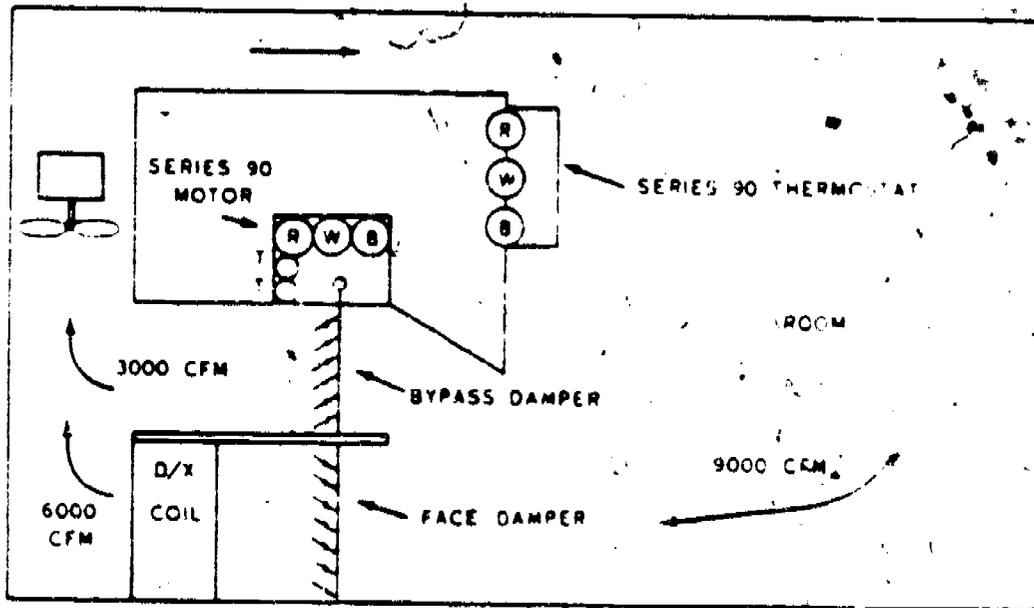

Figure 10. Face and Bypass Damper Temperature Control
It is often desirable to control the temperature of an equipment cooling space by controlling the amount of air that circulates across a direct expansion (DX) coil. Figure 10 is a diagram of this application.